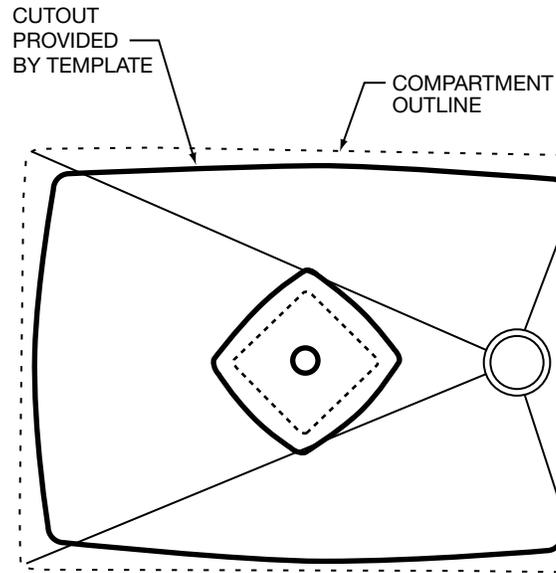

FIGURE 1
- **WARNING:** The template provided with the sink provides a non-traditional overhang in comparison with the geometry of the sink as shown in Figure 1. It is recommended that the installer(s) discuss this with the customer and agree that this finished appearance is the desired effect. Elkay is not responsible for improper sink or countertop installations.